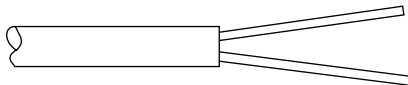

Figure 2. Stripping the 52X-ST Outer Insulation
2. As show in Figure 2, strip the outer insulation from the wires about 1 inch from the end.